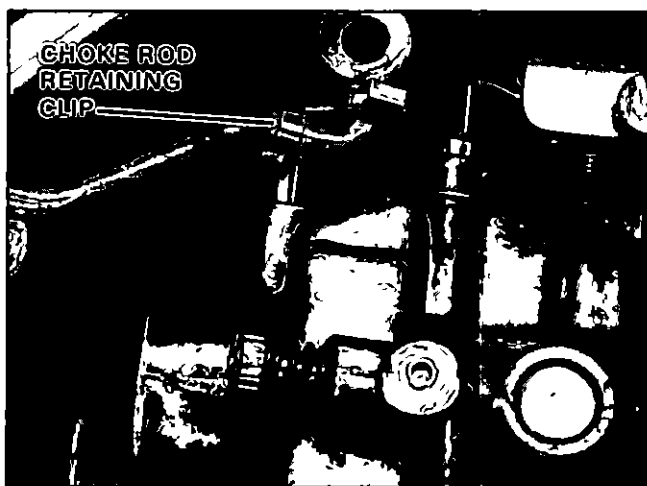

Figure 20. Removing Carburetor.
- 1 Remove choke rod retaining clip from choke rod. Disconnect choke rod, Figure 20.